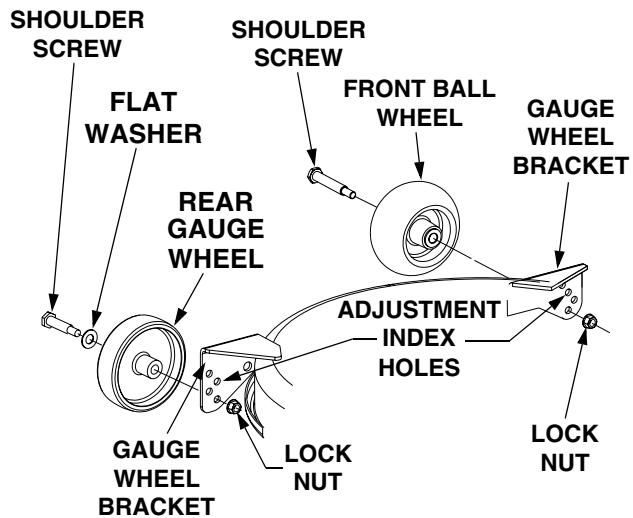

Figure 33
To adjust the height of the gauge wheels, place the tractor on a firm and level surface. Refer to Figure 33, and proceed as follows:
1. Position the tractor and mower deck on a firm, level surface. Raise the gauge wheels to their highest setting in the gauge wheel brackets (Refer to Figure 33).
- Position the tractor and mower deck on a firm, level surface. Raise the gauge wheels to their highest setting in the gauge wheel brackets (Refer to Figure 33).